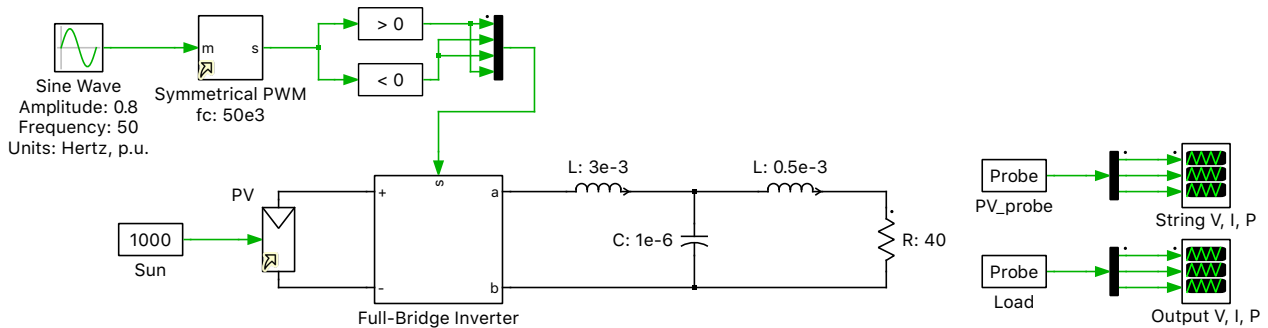

Figure 4: Complete PV inverter circuit
Note: If the checkbox **Show library link indicators** within the **PLECS Preferences + Libraries** dialog is checked, PLECS will display a small hollow curved arrow (↷) in the lower-left corner of each component that links back to a library, as seen in Fig. 4. A right-click on this link indicator opens a context menu that allows you to break the library link or show the original component in the library browser.
When we copy a library component, either into a circuit schematic or a component library, PLECS automatically creates a reference component rather than a full copy. You can modify the parameters of the reference component but you cannot mask it or, if it is already masked, edit the mask. You can recognize a library reference by the string “(link)” displayed next to the mask type in the dialog box, the string “Link” displayed in the title bar of the underlying schematic windows, or with PLECS 4.5 or newer, by showing library link indicators, as seen in Fig. 4.
- 3 Complete the PV inverter circuit shown in Fig. 4, using blocks found in the Passive Components category to build the output filter and the load.
- 4 Complete the controller circuit to generate pulse width modulation (PWM) signals, as shown in Fig. 4.
- 5 Set the parameter values as displayed in Fig. 4; leave all the other component parameters as their default values.
In this section, we will create a Model Reference to the subsystem labeled “Full-Bridge Inverter”, shown in Fig. 4.